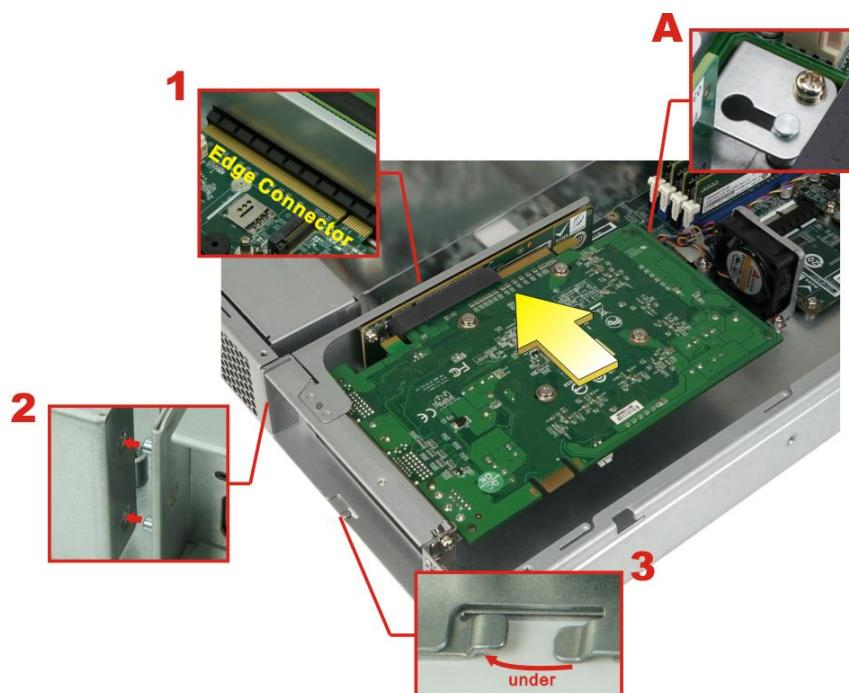

Figure 3-9: Expansion Slot Module Installation
Step 6: Place the expansion slot module back to the original position by hooking the slotted hole into the positioning stud in the chassis (**Figure 3-9 A**). Push the connector of the expansion slot module into the edge connector to install it.